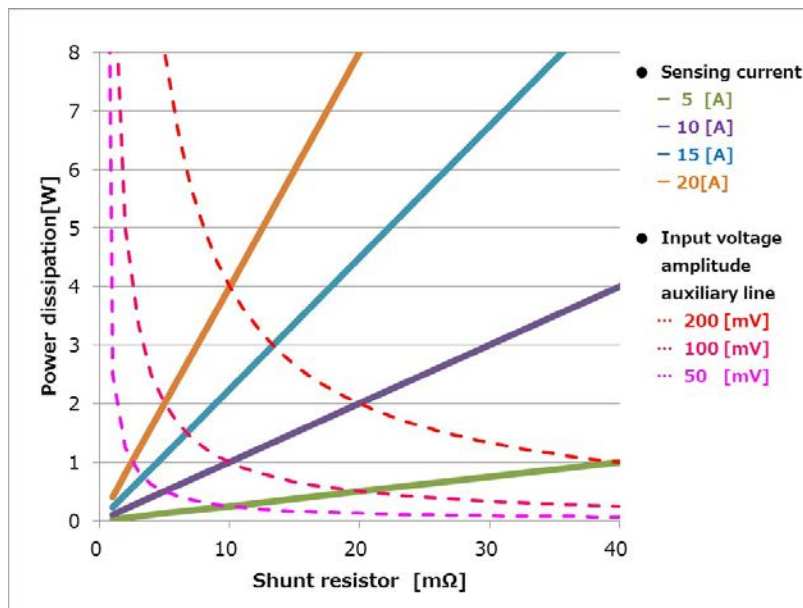

Fig.7 Relationship between shunt resistor and power dissipation
- a) The shunt resistor value should be set with consideration of both power dissipation at the resistor and the sensing accuracy. Smaller shunt resistance is desired in terms of the power dissipation, on the other hand, the input voltage amplitude of  $\pm 200$  mV is desired in terms of the sensing accuracy (e.g. linearity, SNR). Fig.7 shows the relationship between the shunt resistance and power dissipation. In this graph, a point at intersection of the solid line (relationship between shunt resistance and power dissipation) with dotted line (input voltage amplitude auxiliary line) is a typical setting value. To obtain sufficient current sense accuracy, the input voltage amplitude of  $\pm 200$  mV is recommended. Please check if the power dissipation is satisfied from this graph and the sensed current.